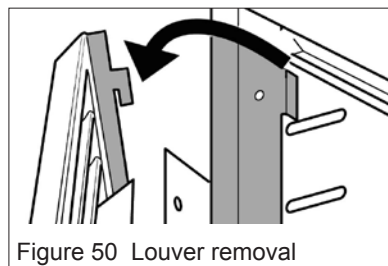

Figure 50 Louver removal
- Lift and unhook the top louver. See figure 50.